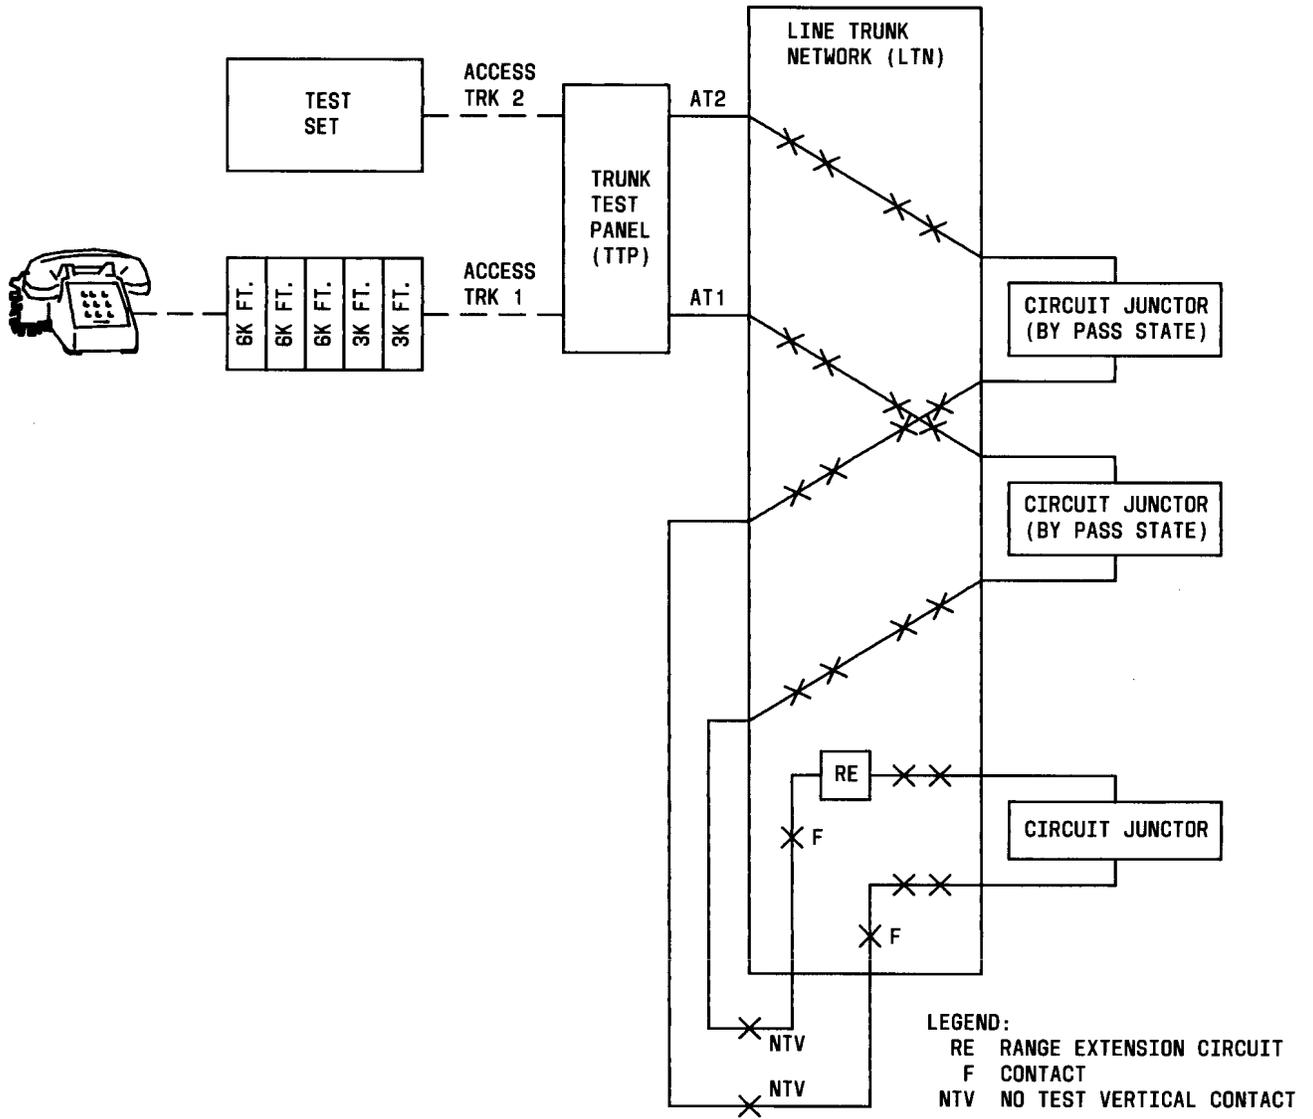

Fig. 1—Test Configuration Using Trunk Test Panel to Test a Range Extension Circuit
**Note:** Both sides of the RE unit to be tested are connected to the TTP. The connection must be initiated on access trunk (AT) 1, and AT2 must be idle. AT1 will control the peripheral decoder points of the RE unit, and AT2 will control the peripheral decoder points of the circuit junctor the RE unit is connected through to the TTP. (See Fig. 1.)
3	Make up artificial load-line cable by connecting the following components: (a) Two 26 gauge 3-Kft load-line components (b) Three 26 gauge 6-Kft load-line components (c) One 500 telephone set with receiver on-hook (see Fig. 1).